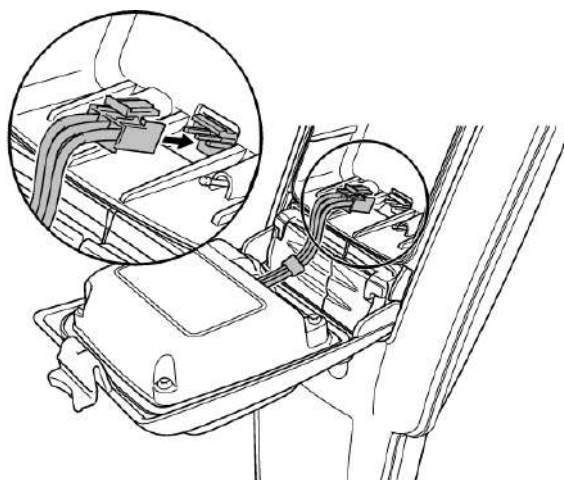

Figure 4.7 Connecting the Li Ion lead
- 2 If using a Li-Ion battery pack un-plug the lead connector (see figure 4.7)
If using the Li-ion battery pack, plug the lead into the battery connector (fig 4.7).